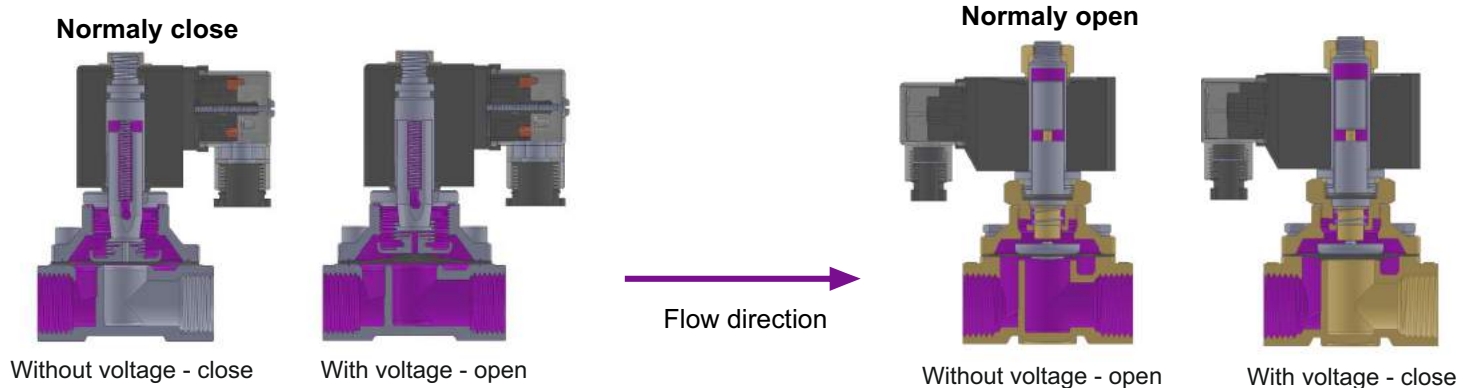

Fig. 4. Flow direction
1. Connect the inlet and outlet to the valve ports according to the flow direction arrow marked on valve body (see fig. 4). Joints should be sealed accordingly.